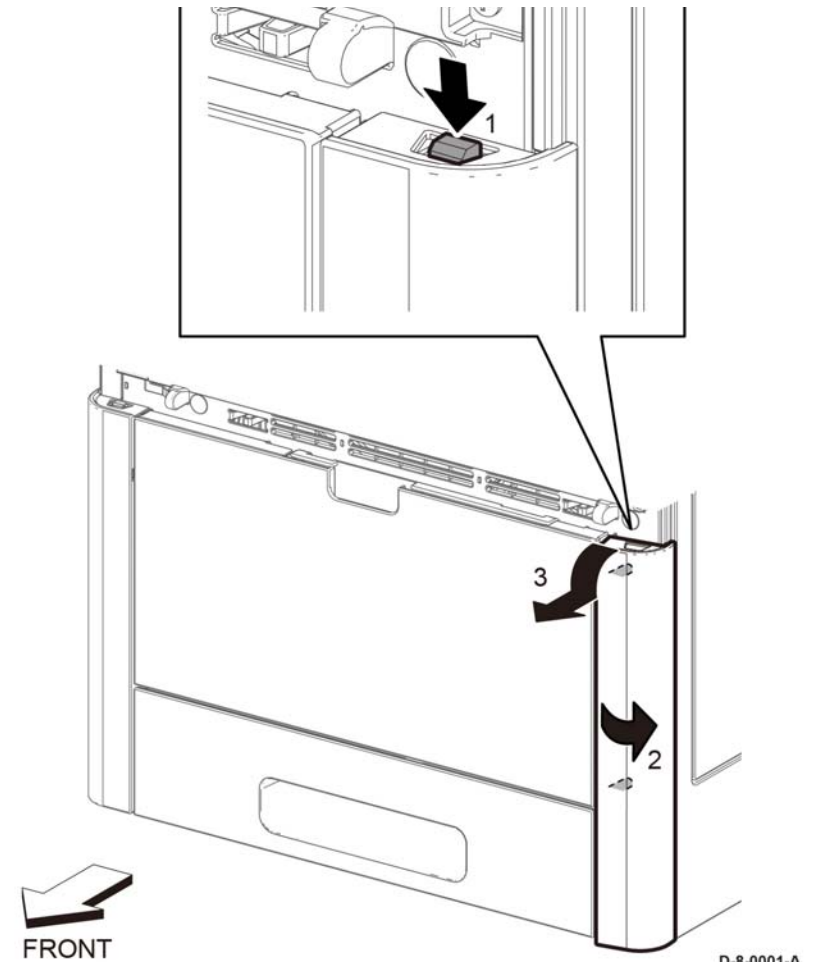

Figure 1 Remove the Right Side Front cover (C500/C600)
4. Refer to Figure 1, push and release button to release the hook at the top end of the right side front cover.